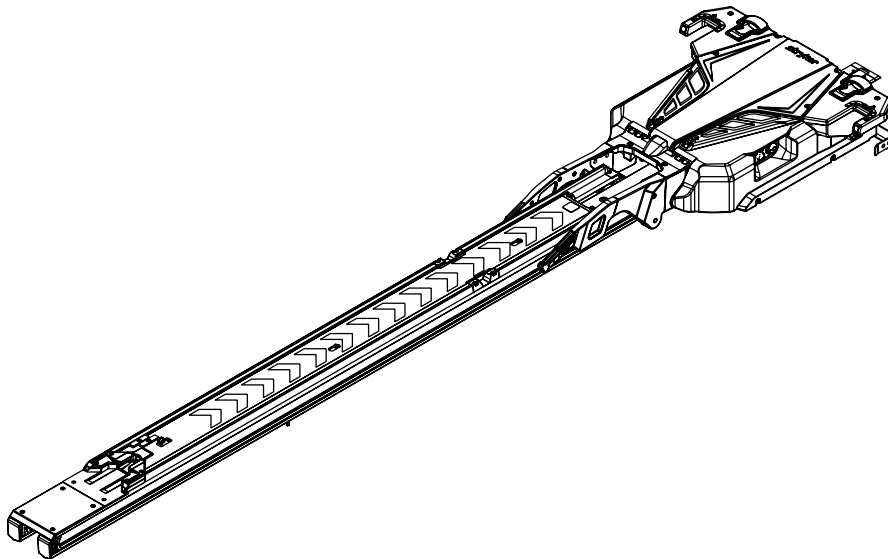

Figure 22: Locked Trolley Assembly
13. Carefully push the transfer assembly forward toward the head end until it locks into position as shown in Figure 22.